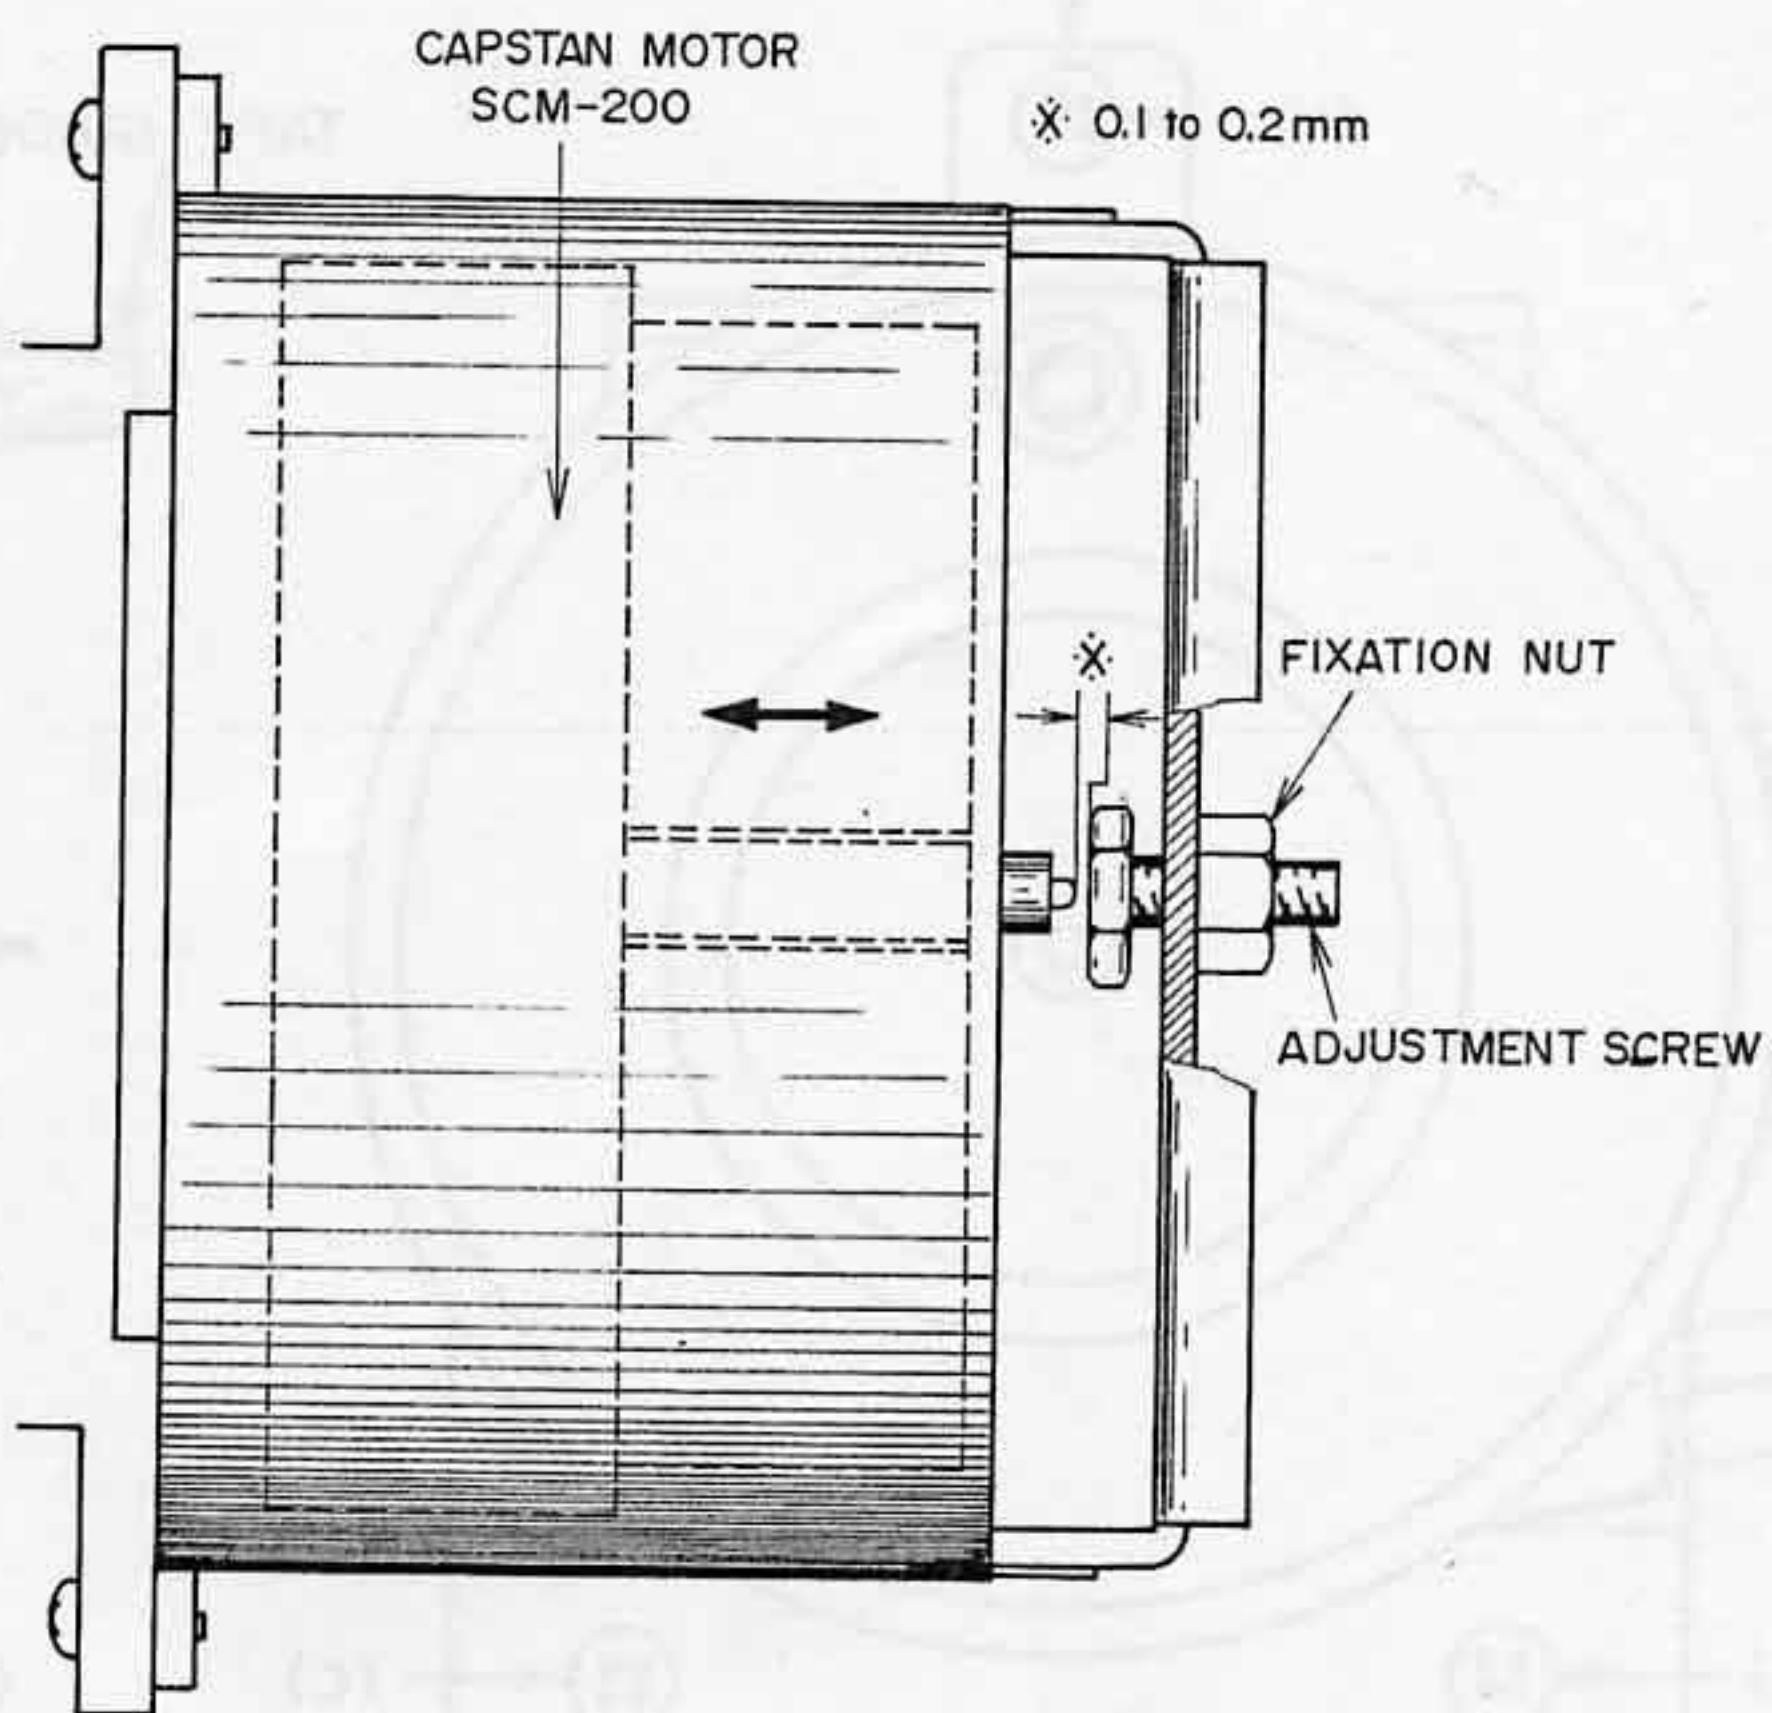

Fig. 7
**5. CAPSTAN SHAFT LOOSE PLAY ADJUSTMENT (Refer to Fig. 7)**